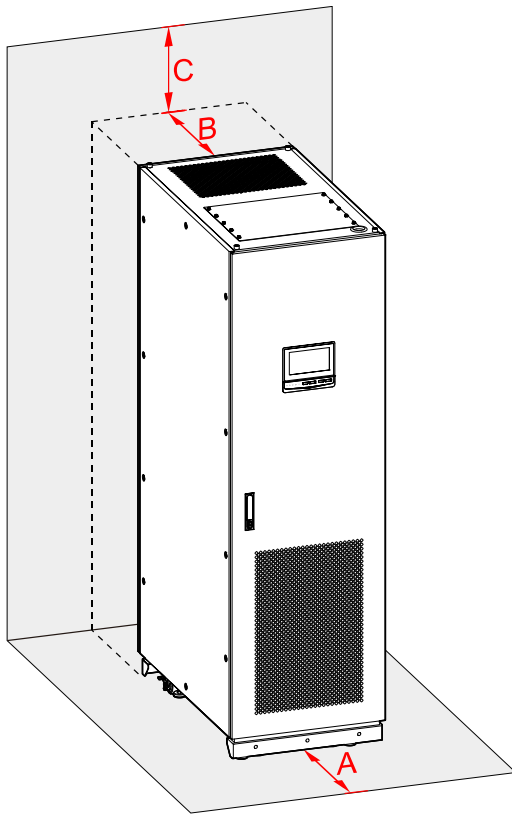

Figure3-4 Installation spacing requirements (unit: inch)
- When UPS units are installed in parallel cabinets, the space reserved around the entire combined device should meet the installation space requirements specified in Figure3-4 and Table3-1.